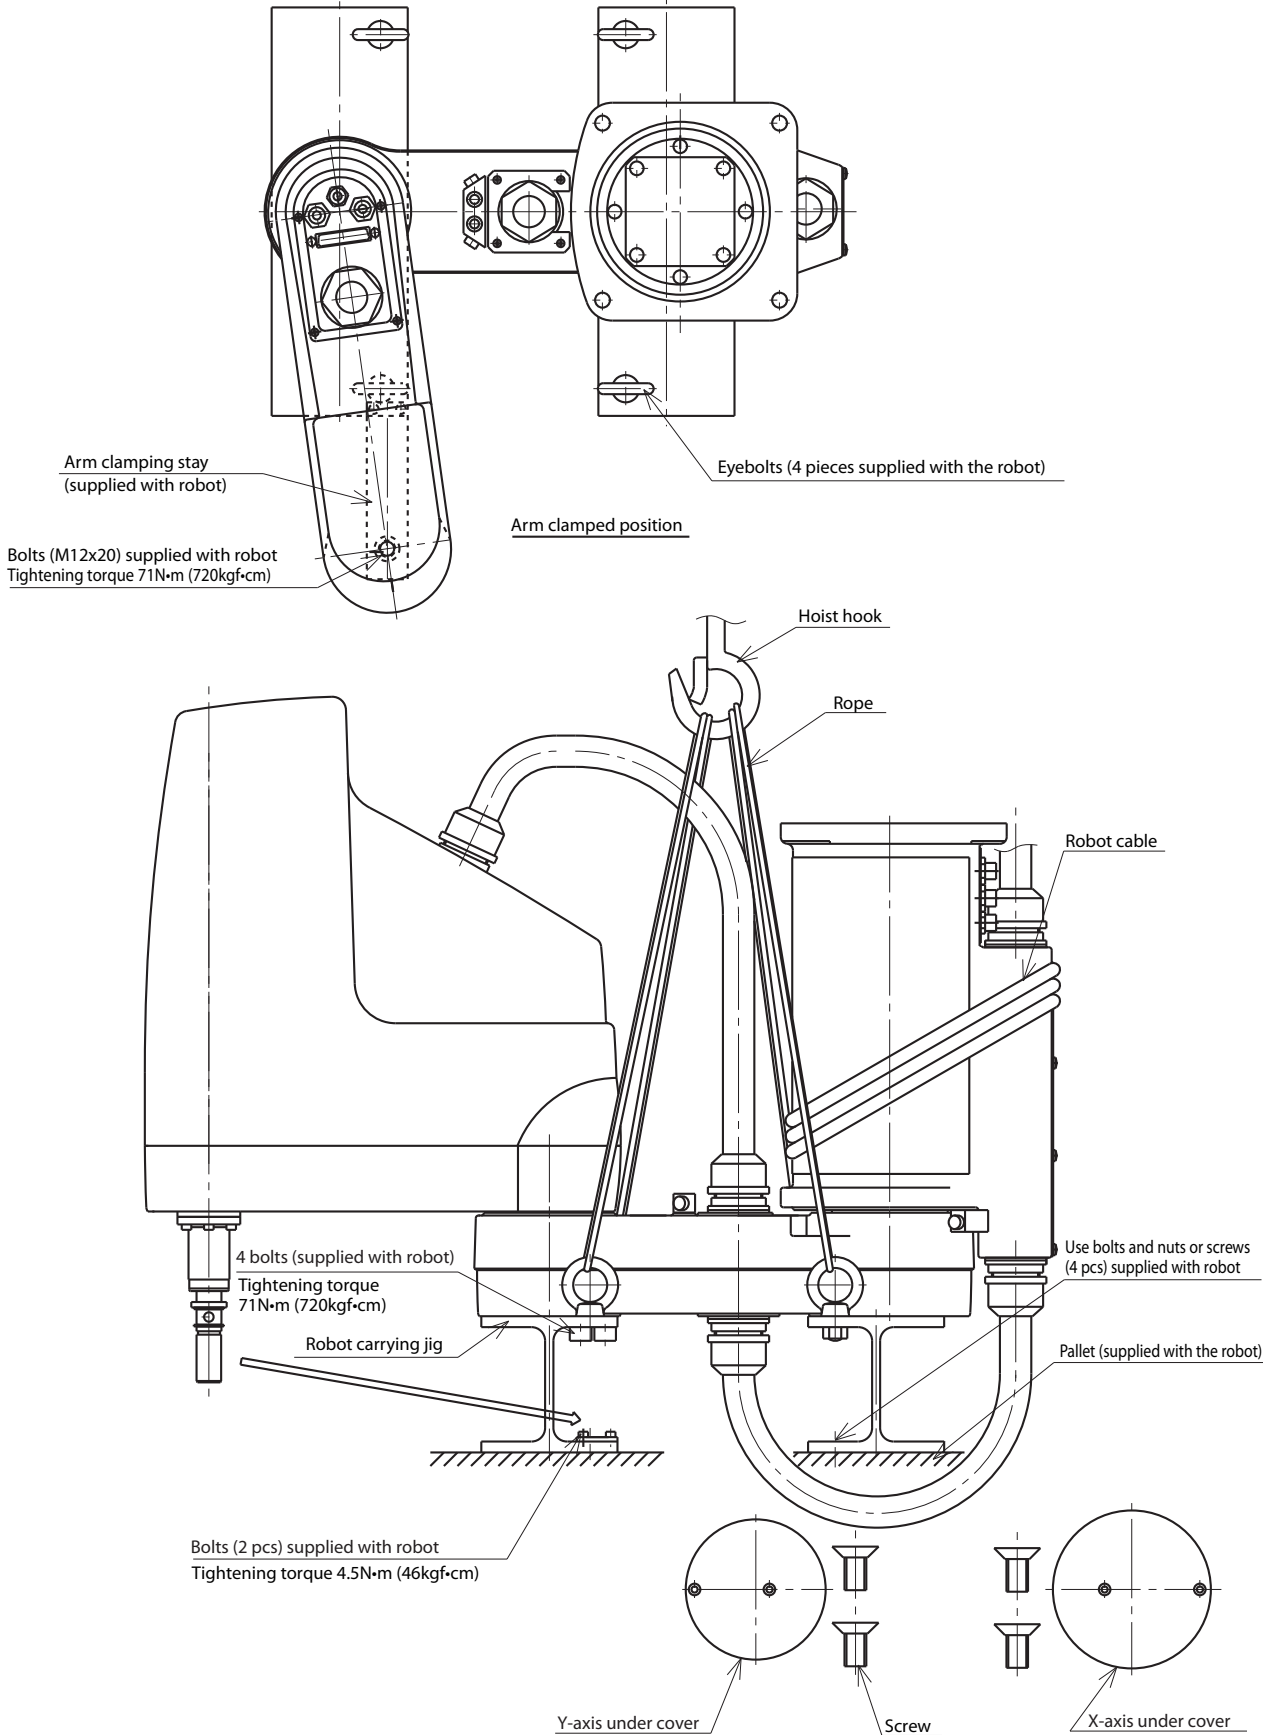

Fig. 2-4
(1) When using eyebolts (See Fig. 2-4.)
- 1) Remove the X-axis and Y-axis under covers and attach the carrying jigs as shown in Fig. 2-4. Remove all loads if attached to the Z-axis to set the servo free and release the brake. Then fold the Z-axis to a position where it can be fastened to the arm clamping stay.
- 3) Clamp the Y-axis arm by using the stay and bolts that come with the robot. If the arms cannot be folded in the carrying position (see Fig. 2-4) due to the X-axis mechanical stoppers, then remove them. (When the robot is shipped, the mechanical stoppers are installed to provide the maximum movement range.)